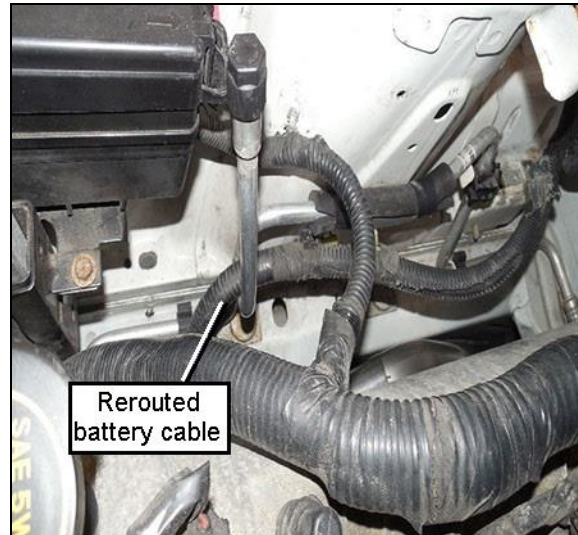

Figure 4
36. Reroute the battery cables from along the frame rail close to the headers to above the A/C lines and over to the battery. This will keep the cables at a safe distance from the headers (**Figure 4**).